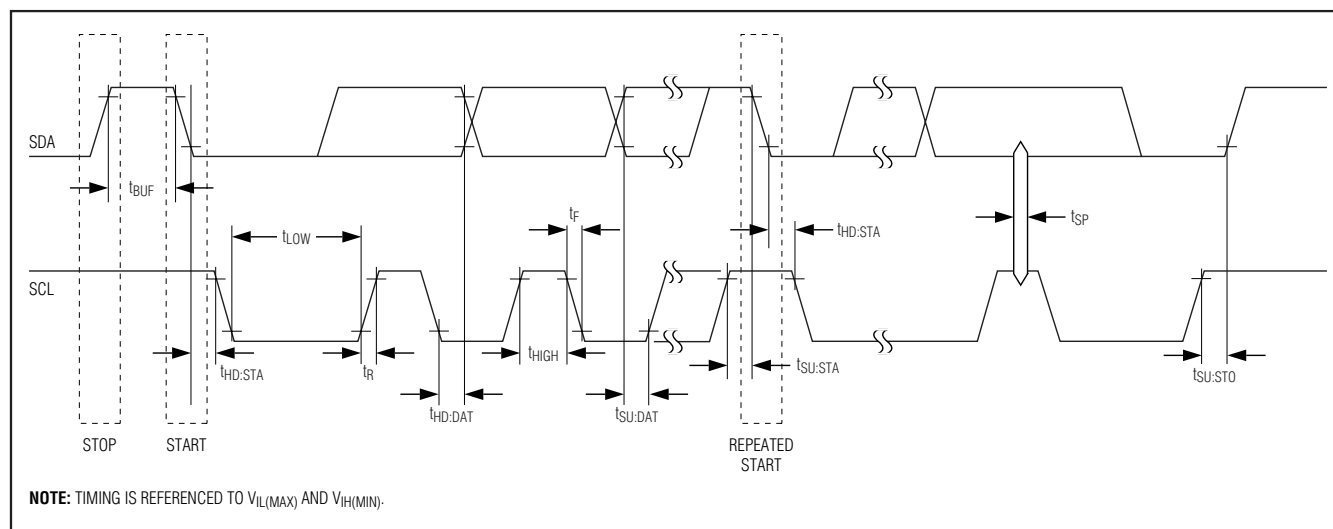

Figure 1. I2C Timing Diagram
**START Condition:** A START condition is generated by the master to initiate a new data transfer with a slave. Transitioning SDA from high to low while SCL remains high generates a START condition. See Figure 1 for applicable timing.
**STOP Condition:** A STOP condition is generated by the master to end a data transfer with a slave. Transitioning SDA from low to high while SCL remains high generates a STOP condition. See Figure 1 for applicable timing.
new data transfer following the current one. Repeated starts are commonly used during read operations to identify a specific memory address to begin a data transfer. A repeated START condition is issued identically to a normal START condition. See Figure 1 for applicable timing.
**Bit Write:** Transitions of SDA must occur during the low state of SCL. The data on SDA must remain valid and unchanged during the entire high pulse of SCL, plus the setup and hold time requirements (Figure 1). Data is shifted into the device during the rising edge of the SCL.
**Bit Read:** At the end of a write operation, the master must release the SDA bus line for the proper amount of setup time (Figure 1) before the next rising edge of SCL during a bit read. The device shifts out each bit of data on SDA at the falling edge of the previous SCL pulse and the data bit is valid at the rising edge of the current SCL pulse. Remember that the master generates all SCL clock pulses, including when it is reading bits from the slave.